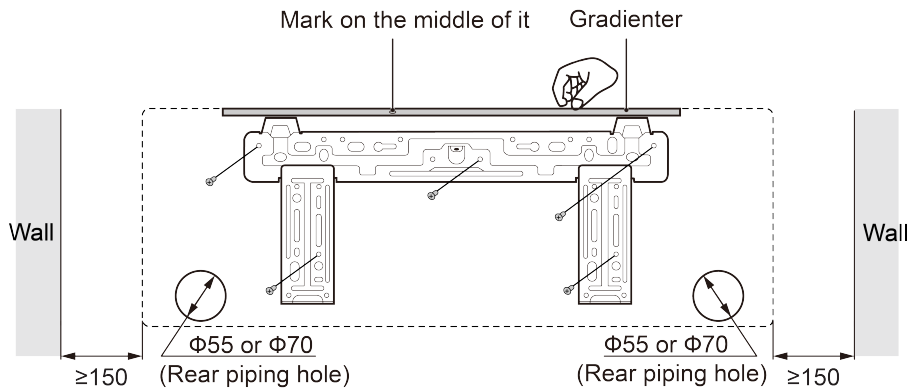

Fig 4.2
- ① Find the horizontal position by the seton method; since the drainage pipe is on the left side, it is necessary to adjust the rear panel to make its left side a little bit lower.
- ② Fix the rear panel on the wall by bolts.
- ③ After installing the rear panel, pull it by hands to check if it is secured enough. The hang panel should support the weight of an adult (60kg), and the weight shared by every bolt should be fairly even.
- ④ The diameter showed in Fig 4.2 is 55mm or 70mm.
- (1) Make the piping hole (Φ 55mm or 70mm) in the wall at a slight downward slant to the outdoor side. The center of the hole should be determined referring to Fig 4.2.
- (2) Insert the piping-hole sleeve into the hole to prevent the connected piping and wiring from being damaged when passing through the hole.